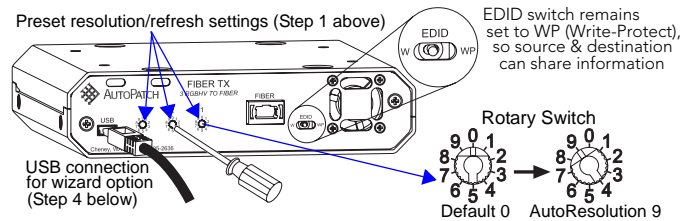

FIG. 5 Adjust one channel at a time
- Set the rotary switch on the front to position 9 "AutoResolution" using a small screwdriver (see FIG. 5 for rotary switch alignment).